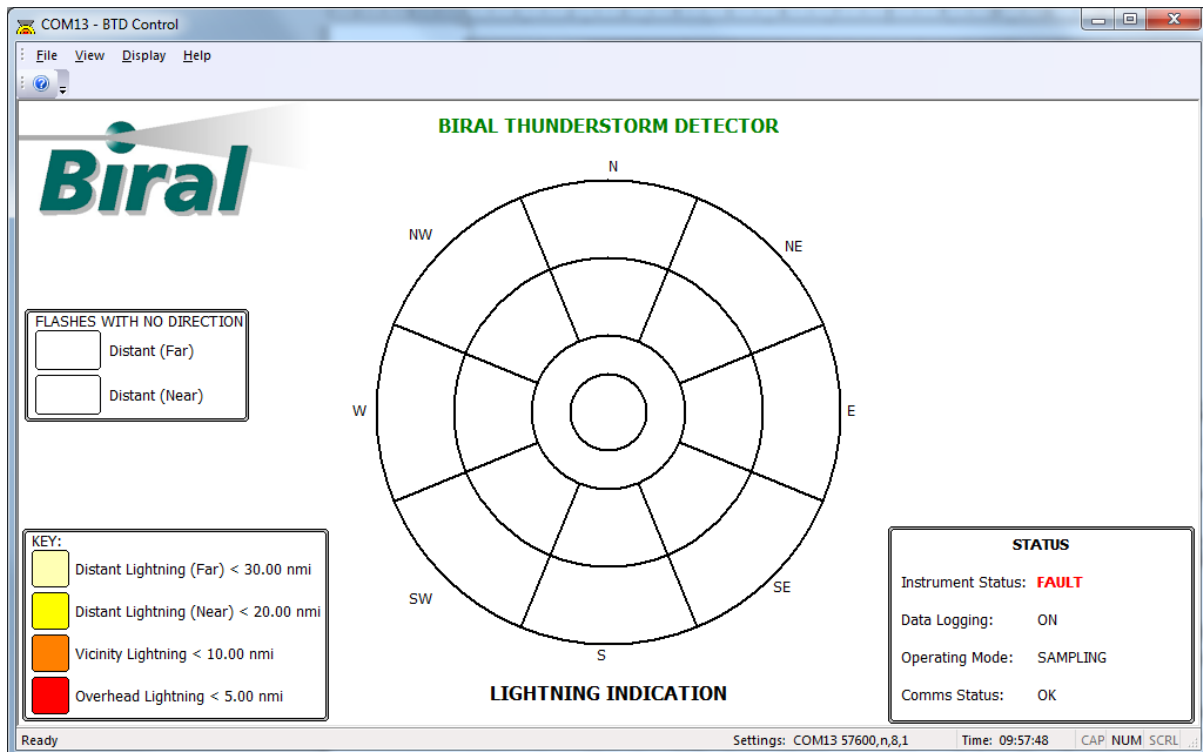

Figure 5-13: Overhead Warning hidden
- **View Overhead Warning Box** – This checkbox hides or displays the warning of Potential Thunderstorm Activity Overhead display. A tick in the box indicates that the Warning box is displayed. Figure 5-13 below shows the display when the warning box is hidden.